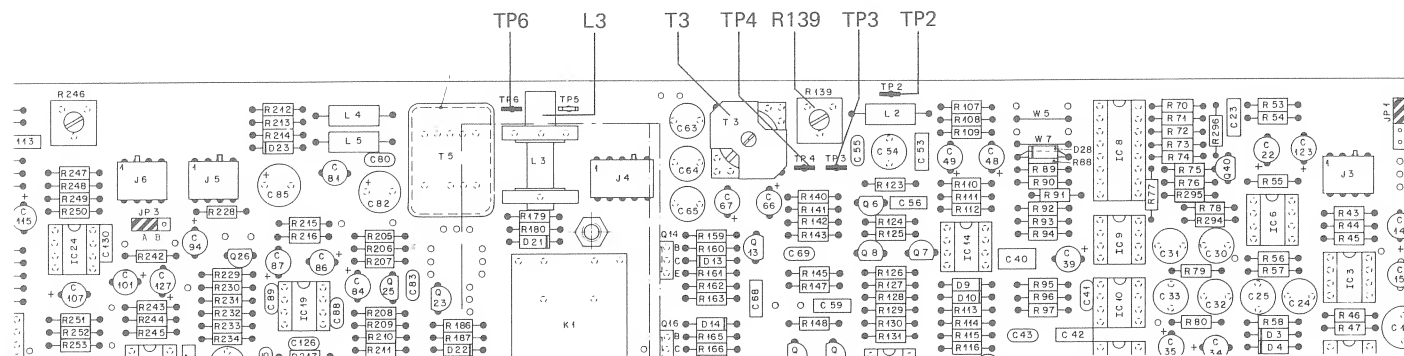

Fig.4.4.1
Turn R139 on the AUDIO ELECTRONICS PCB 1.727.420/421/422/423 or 1.727.460/461/462/463/467 (GR 41 or GR 42) to the minimum. (See Fig.4.4.1)
- Connect the vacuum-tube voltmeter to TP6 (0V to TP2) of the AUDIO ELECTRONICS PCB 1.727.420/421/ 1.727.422/423 or 1.727.460/461/462/463/467 (GR 41 or GR 42 respectively). (See Fig.4.4.1)